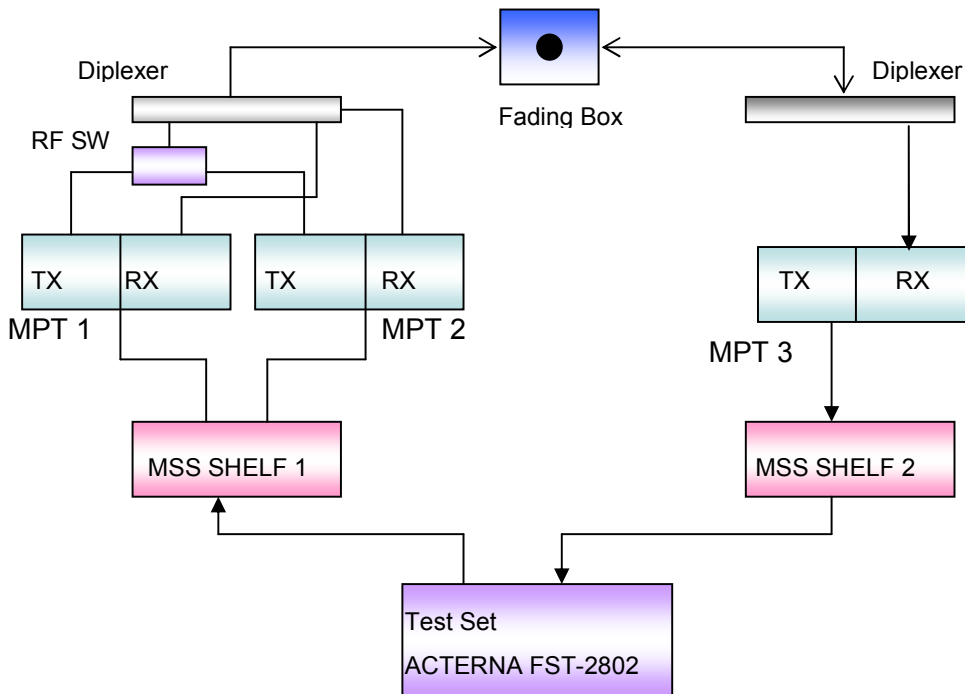

Figure 21 **Link Outage** Time Setup due to a transmitter switch
- Connect as shown in figure 21